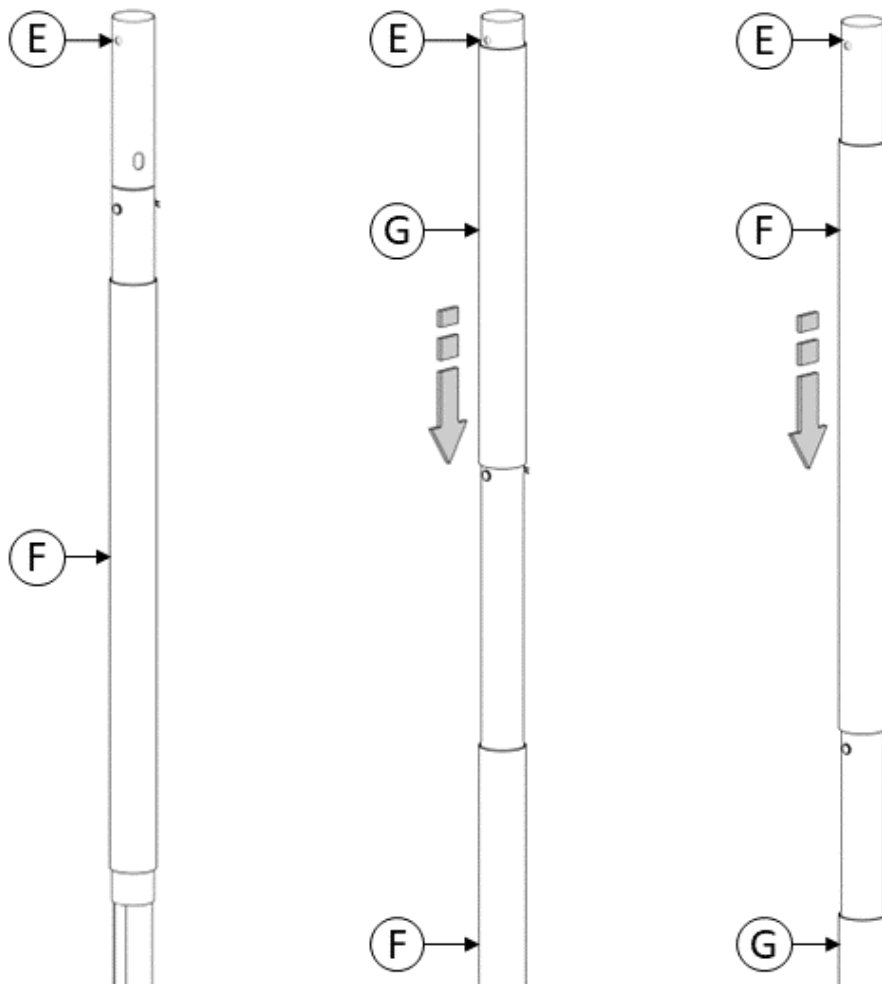

FIGURE 7
7. Install the remaining plastic sleeve, **F** or **G**, over **E** as shown in *FIGURE 7*. If **E** was connected to **D** using the upper adjustment hole, the remaining plastic sleeve is unused. **Note:** Plastic sleeve, **F** or **G**, should fully cover all visible metal on **E** while leaving the top hole accessible for the next step.